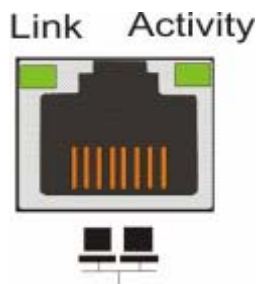

Figure 4-5: LAN Indicators
A shielded Ethernet cable is recommended for connecting the RJ-45 Ethernet management port to a local network after you configure an IP address. This enables you to manage your subsystem via LAN/WAN. Two (2) LEDs on the Ethernet port indicate connection statuses. See *Figure 4-5* for the locations of the LED indicators. Refer to *Table 4-6* for the LED definitions.